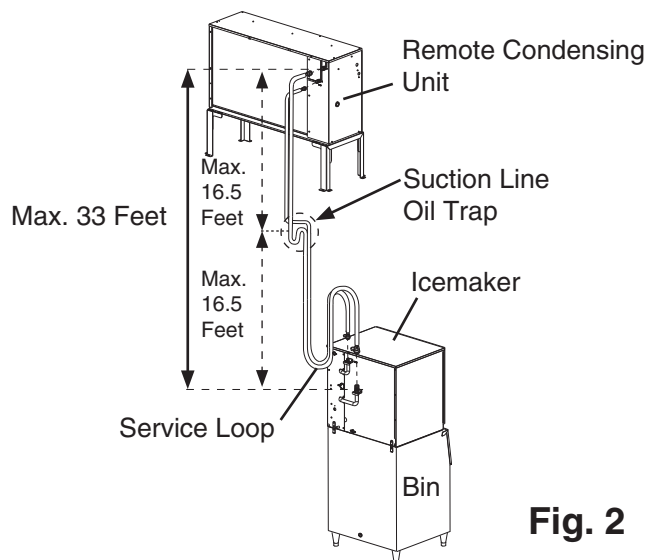

Fig. 2
- Vertical distance between the remote condensing unit and icemaker should not exceed 33 feet above or 10 feet below the icemaker. These distances are measured fitting to fitting. See Fig. 2.